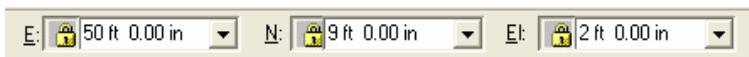

Figure 31: PinPoint Ribbon
3. On the **PinPoint** ribbon, key in the coordinates E: 50', N: 9', EL: 2' to select the first point for the volume as shown in Figure 31.